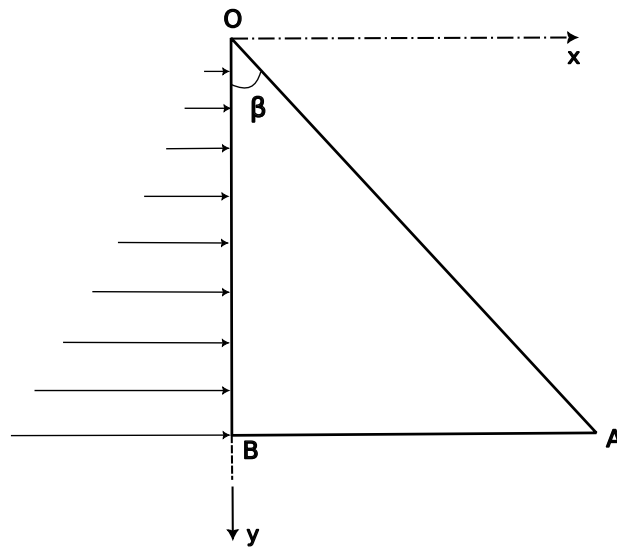

Figure 1
1. The cross-section of the wall of dam is shown in Fig.1.
The pressure of water on face OB is also shown. With the axes Ox and Oy, as shown in Fig.1, the stresses at any point (x, y) are given by (γ = specific weight of water and ρ = specific weight of dam material)